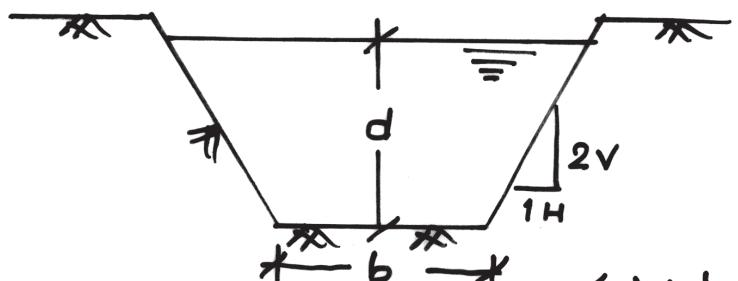

Figure 6(a)
- Q6)** a) A trapezoidal channel has side slope of 1 horizontal to 2 vertical and slope of its bed is 1 in 1500. The area of the section is 40m^2 . Find the dimensions for the channel sections if it is most economical as shown in Figure 6 a. Take Chezy' s constant as 80. [6]